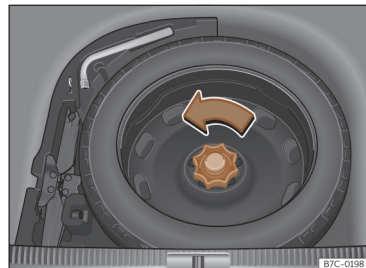

Fig. 235 In the luggage compartment: load floor raised. »
- Turn the thumb wheel anti-clockwise »» **Fig. 235**.